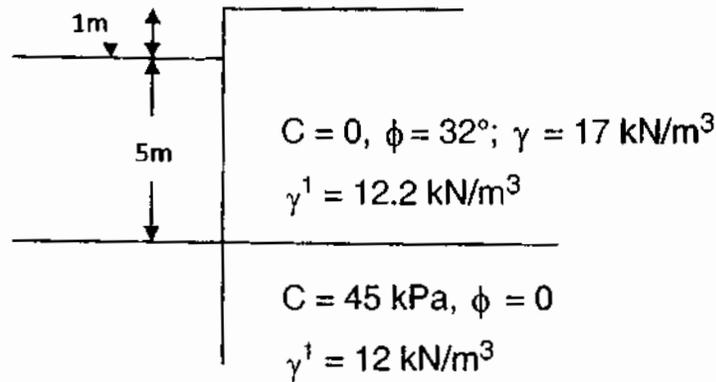

Fig. 2
6. For the sheet pile wall system shown in Fig. 2, determine the depth of penetration considering the pile as cantilever type. 20